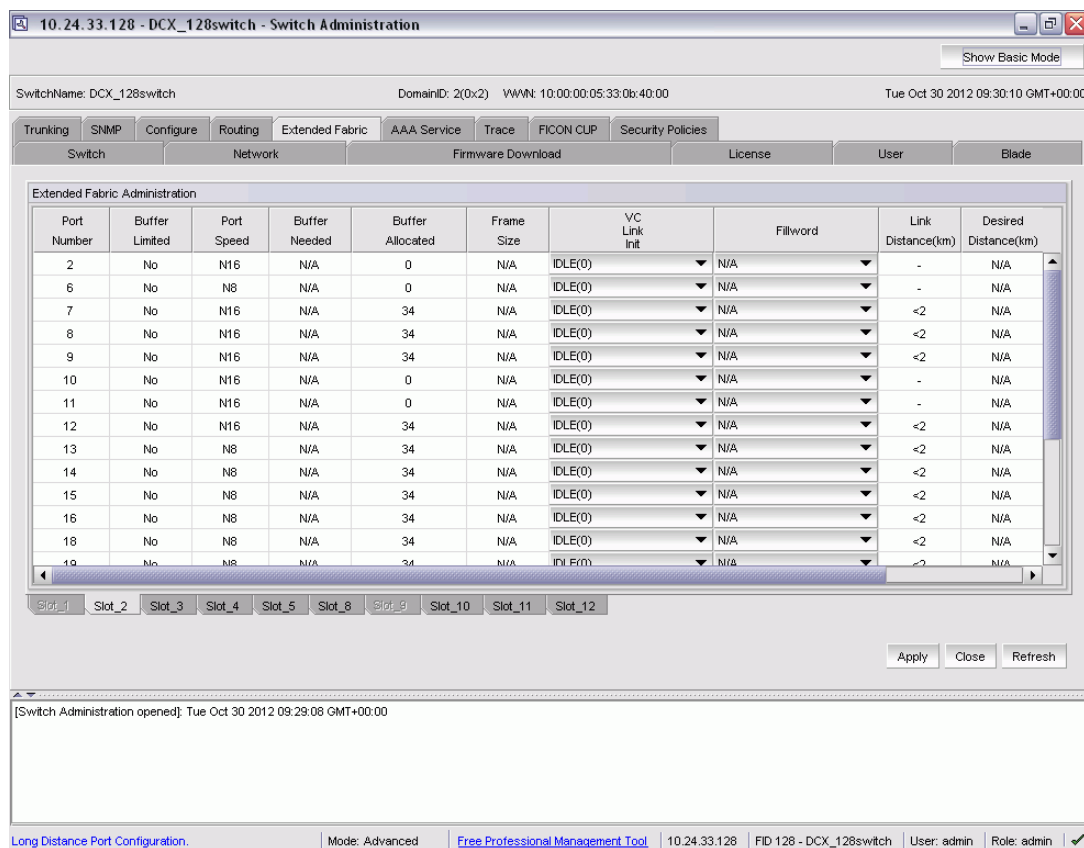

FIGURE 35 Extended Fabric tab
The **Extended Fabric** tab displays information about the port speed, long-distance settings, and buffer credits, as shown in Figure 35 on page 153. For detailed information on managing extended fabrics, refer to the *Fabric OS Administrator's Guide*.
- a. Double-click the **Desired Distance** field for the port, as shown in Figure 35.